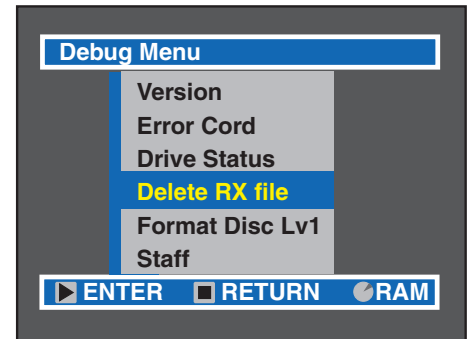

Fig. 2-1
- 4) With the debug menu screen (Fig. 2-1) displayed, choose "Delete RX file" and designate it.